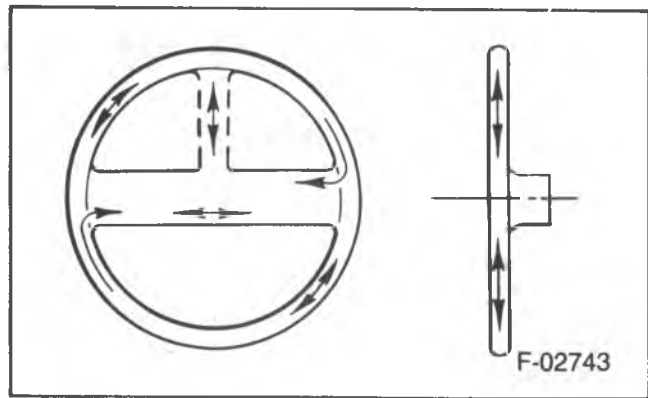

Figure 2—Steering Wheel Grain
REFINISHING PROCEDURE (Figure 2)
- c. Follow the lines and contour of the wheel as shown in figure 2.